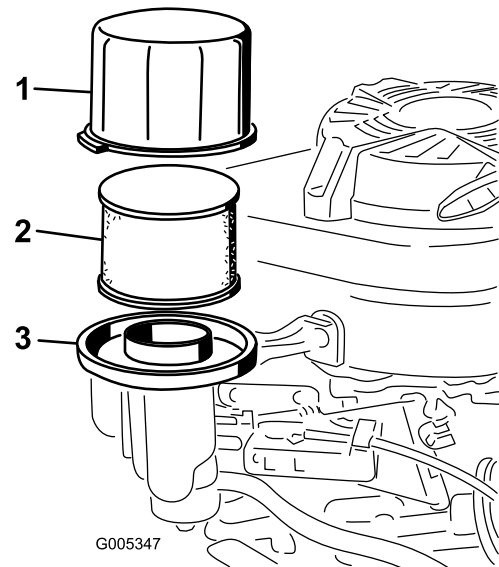

Figure 23
2. Remove the cover and clean it thoroughly (Figure 23).
3. Remove the foam pre-filter and the paper-air filter from the air-filter base (Figure 23).